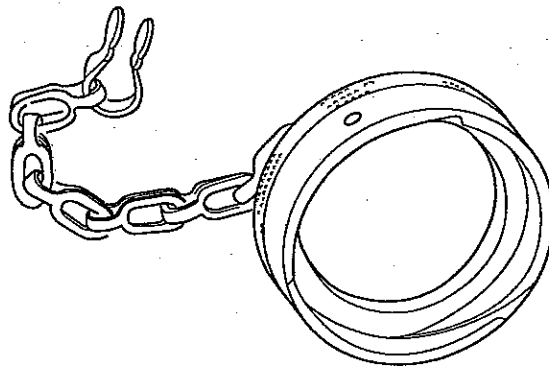

Fig 34 MS3181 Type C receptacle protective cap, general view
23.1.2 MS3181 Type N - for jam nut (single hold mounted) receptacles (Fig 34).